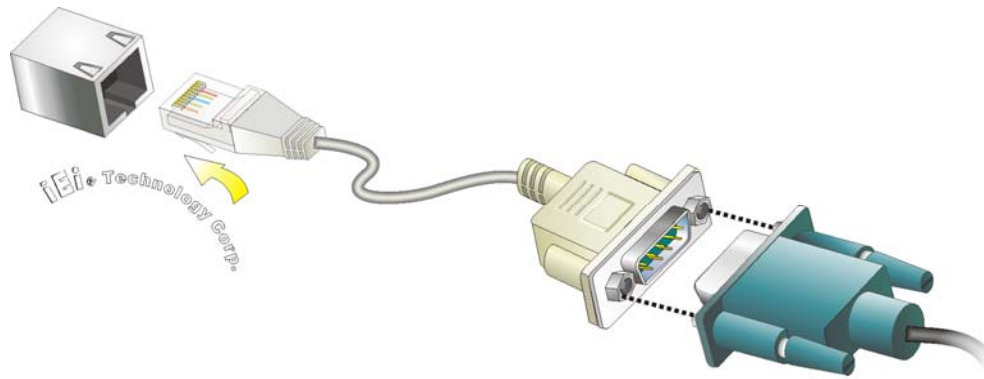

Figure 3-24: RJ-45 Serial Port Connector
Step 2: Connect the RJ-45 to COM port cable to the panel PC. Insert the RJ-45 connector end of cable into the RJ-45 serial port. See **Figure 3-24**.
Step 3: Connect the serial device. Connect a serial device to the DB-9 connector end of the cable. See **Figure 3-24**.